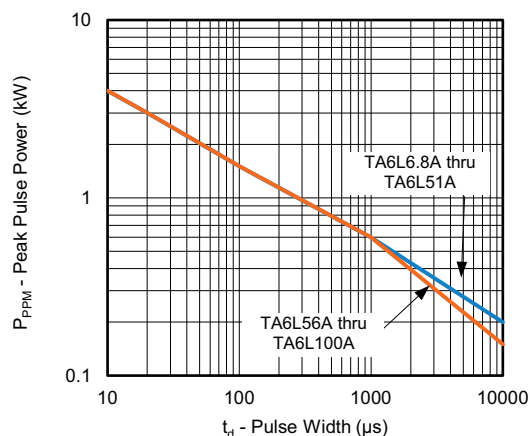

Fig. 1 - Peak Pulse Power Rating Curve
- Fig. 1, power calculations is based on I_{PPM} times defined maximum clamping voltage by pulse width